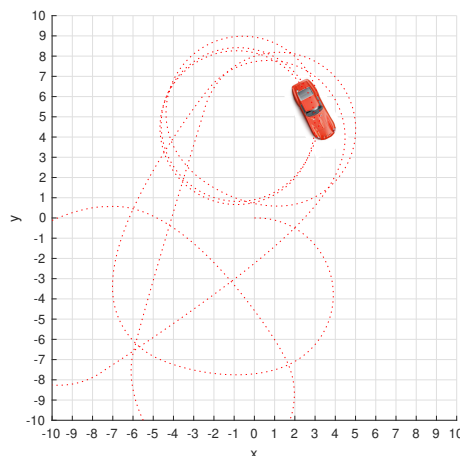

Figure 1.2: Car animation drawn with `demos/car_anim` using `plot_vehicle`
- Added the ability to animate a picture of a vehicle to `plot_vehicle`, see `demos/car_demo` and Figure 1.2. Also added a `'trail'` feature, and updated documentation.